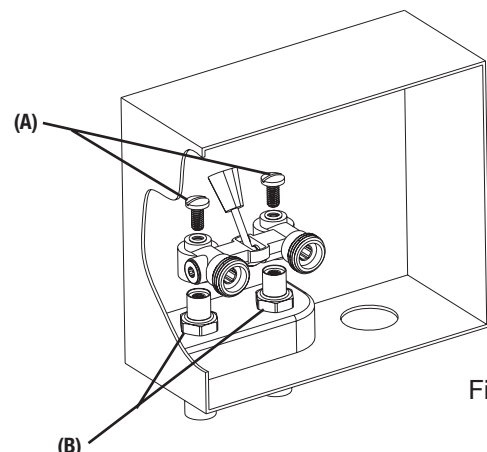

Figure 2
- B3. Remove the #2 valve by unscrewing both slotted screws (A) on the top of the valve. (See Figure 2)
- B4. Remove the body of the valve by lifting the valve off the inlet fittings (B). Go to step #6.